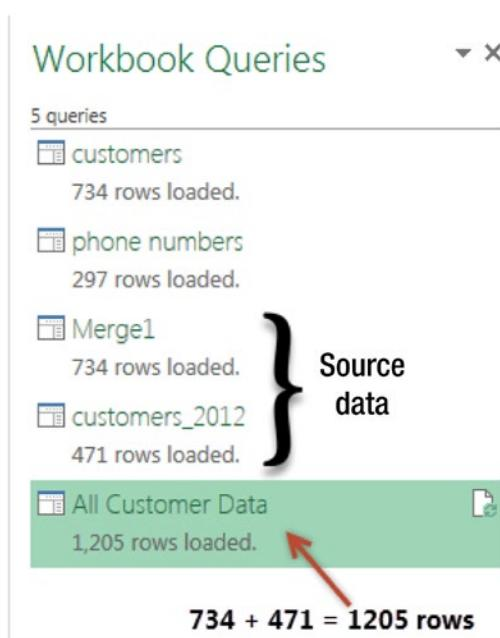

Figure 23-29. The data is loaded
- Close the Power Query window and load this data to your workbook. Please refer to the section “Loading the Merged Data in to Excel” for instructions on how to load data to Excel. Once you load the data, the Workbook Queries pane will look like Figure 23-29.